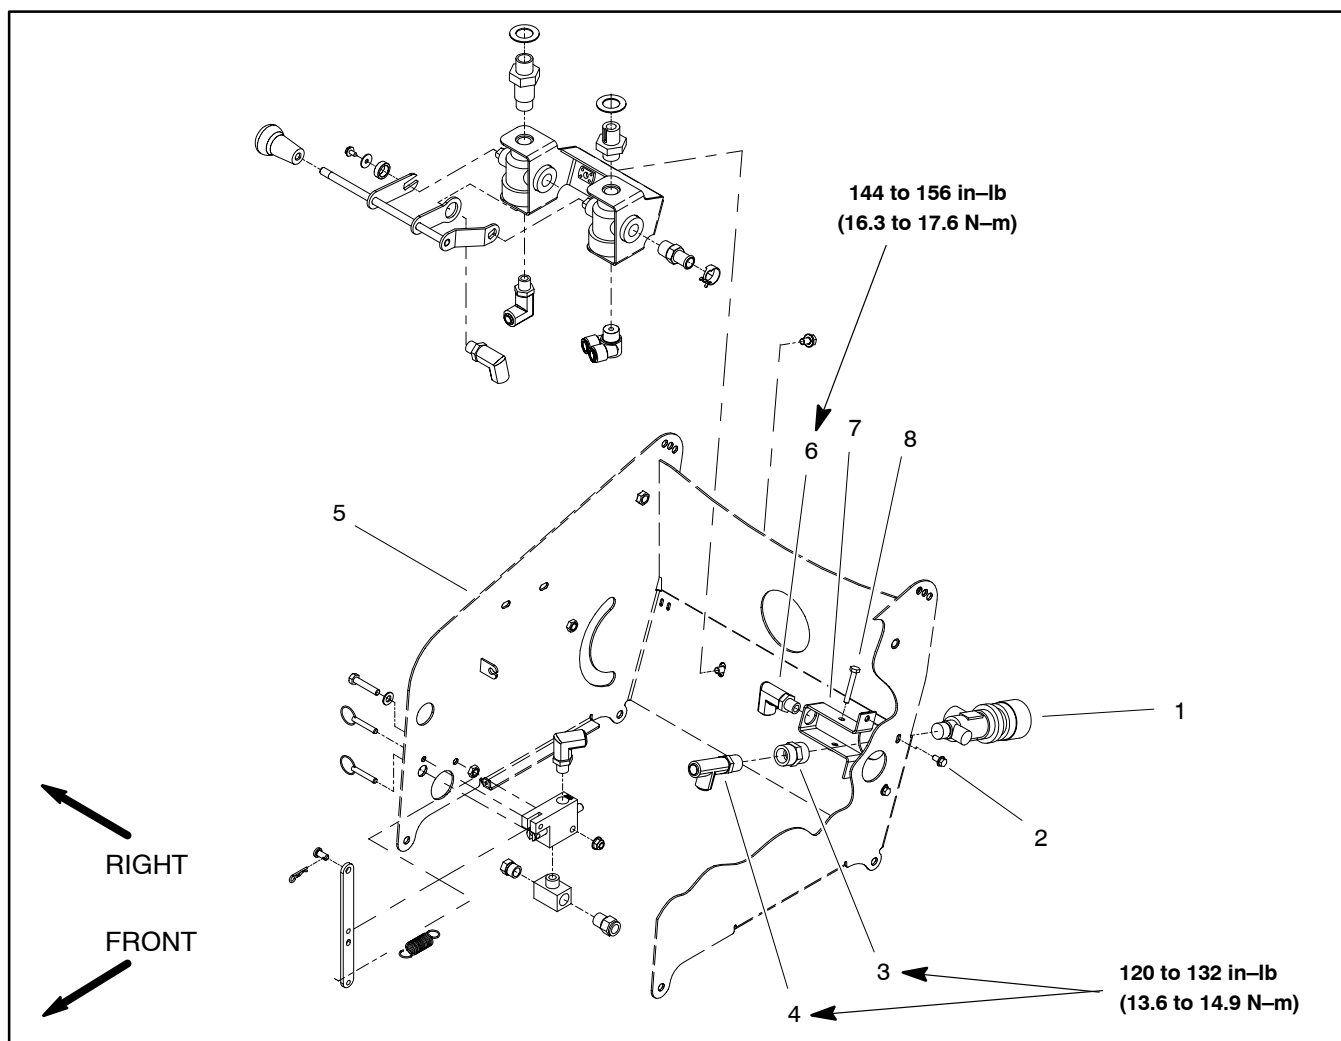

Figure 22
### Removal (Fig. 22)
6. Remove pressure regulator from machine using Figure 22 as a guide.
### Installation (Fig. 22)
1. If fittings were removed from pressure regulator, apply Saf-T-Lok PTFE Pipe Sealant (or equivalent) to threads of fittings (see Thread Sealant for Paint System Fittings in the General Information section). Install fittings to regulator. Torque fittings to values identified in Fig. 22.
2. Install regulator to machine using Figure 22 as a guide.